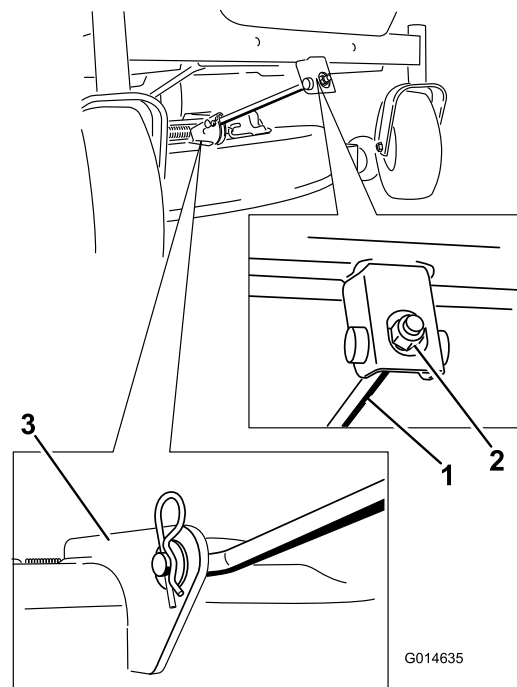

Figure 58
4. Remove the hairpin cotter from the front support rod and remove the rod from the deck bracket (Figure 58). Carefully lower the front of the mower deck to the ground.
6. Attach the front support rod to the mower deck with the clevis pin and hairpin cotter (Figure 58).